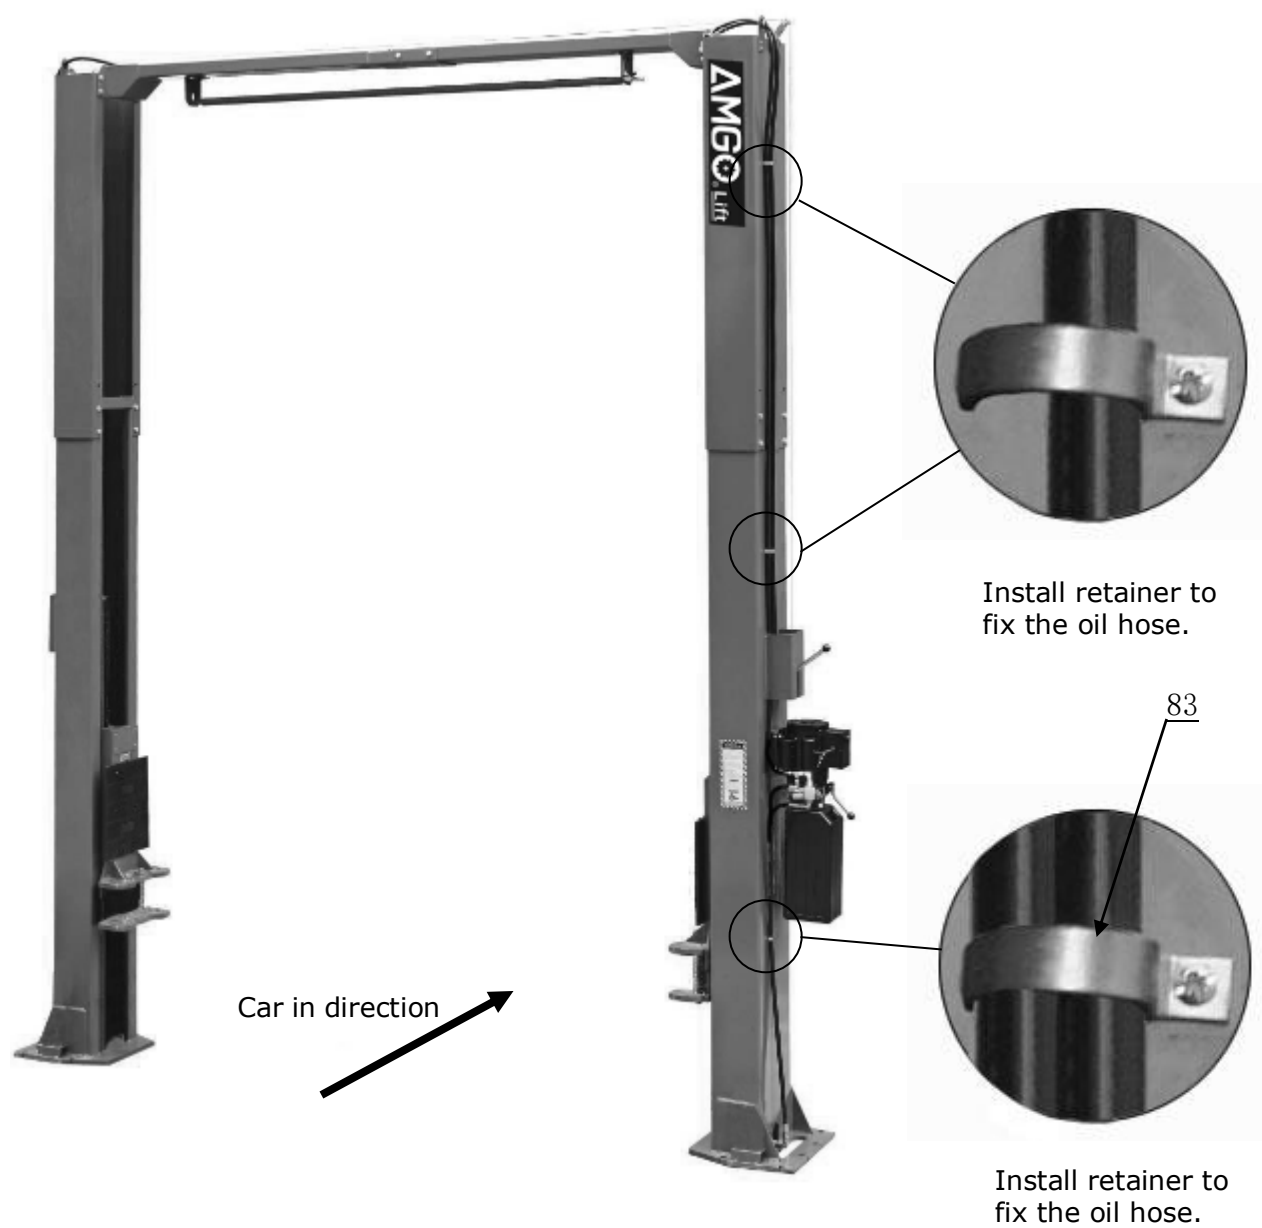

Fig. 29
O. Install retainer (See Fig. 29).